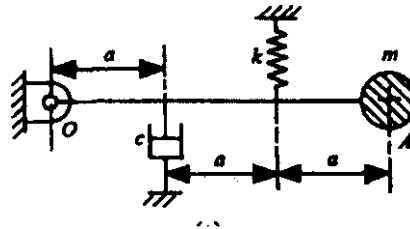

Fig. 8
4. Figure 8 shows an SDF system where a massless rigid rod OA is hinged at O and carries a mass m at its other end A . A spring and a dashpot are attached to the bar vertically as shown. Assuming small oscillation, determine the critical damping coefficient. (9)